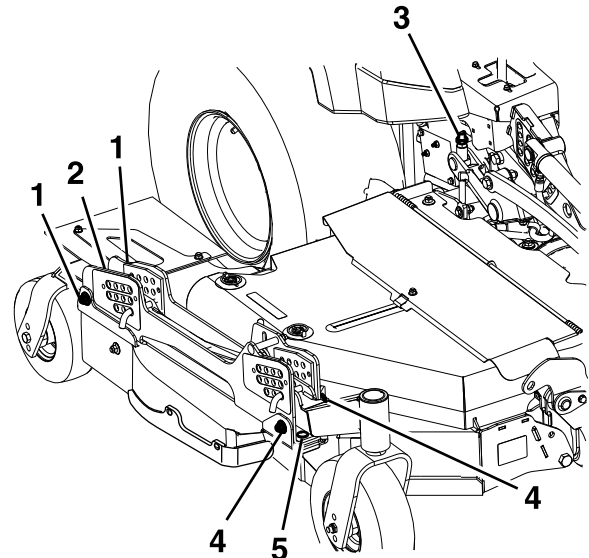

Figure 51
3. The left and right wing decks have blade height adjustments with front and rear adjust points. To adjust the wing blade height, first loosen the front and rear height of cut hanger mounting nuts. There are four locations — two on each side of the channel (see Figure 51).
- If the deck is too low, tighten the front height adjustment bolt (item 5, Figure 51) by rotating the bottom nut clockwise.
- If the deck is too high, loosen the front height adjustment bolt (item 5, Figure 51) by rotating the bottom nut counterclockwise. Fine tuned the rear adjusters as required.
Adjust the rear wheel height (item 2, Figure 51) so that the rear wheel lightly touches the ground with minimal pressure.
4. Measure the back of the wing blades. If either has less than 1/16 inch (1.5 mm) rake, raise the back of the deck by tightening the LH and RH rear adjustments (item 3, Figure 51) until all four blades have a minimum of 1/16 inch rake (1.5 mm). Readjust the wing rear wheels so they lightly touch the ground with minimal pressure.
Tighten all four rear hanger mount points (item 1, Figure 51).